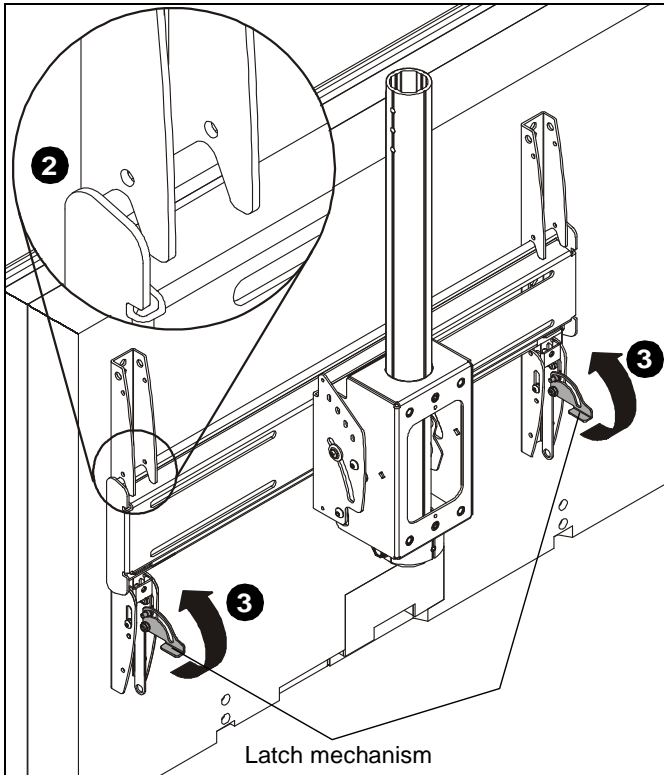

Figure 7
- While supporting both sides of display, lower display onto ceiling mount, hooking top of interface brackets onto front of ceiling mount. (See Figure 7)
- Raise the latch mechanism on both interface brackets to lock bracket in place. (See Figure 7)